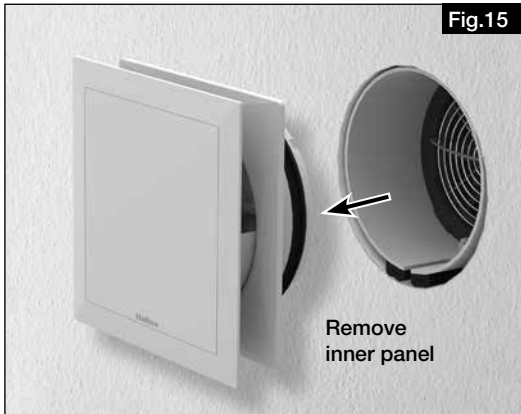

Fig.15
1. Remove inner panel (see Fig. 15).